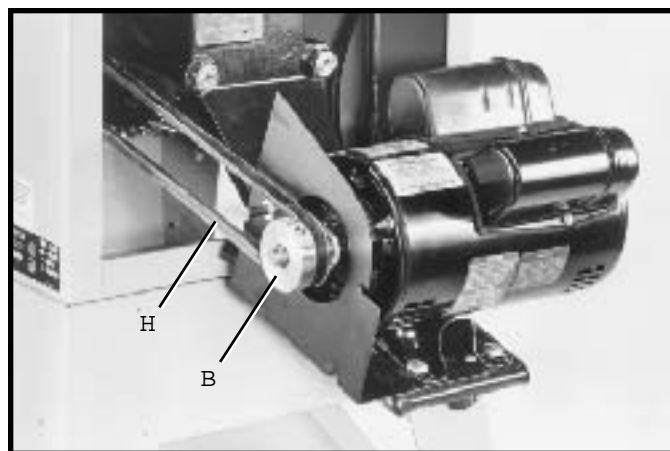

Fig. 20
7. Lift the motor and assemble the drive belt (H) Fig. 20, to the arbor pulley and motor pulley (B). The weight of the motor will provide the correct belt tension.